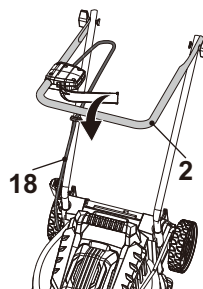

Fig. 15
2. Grasp the grip handle (2) and fold the handle assembly for storage (Fig. 15). Ensure that the electrical cord (18) is not squeezed,
3. Tighten the knobs (5) clockwise afterwards.